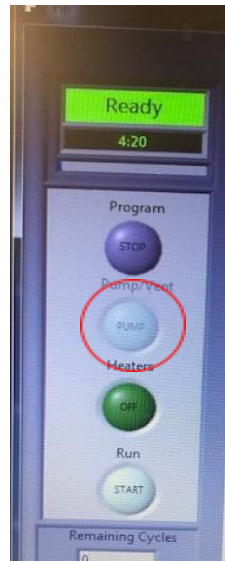

Figure 3: Pump/Vent Chamber Button
9.5.1. Click "Vent Chamber" **FIGURE 3**